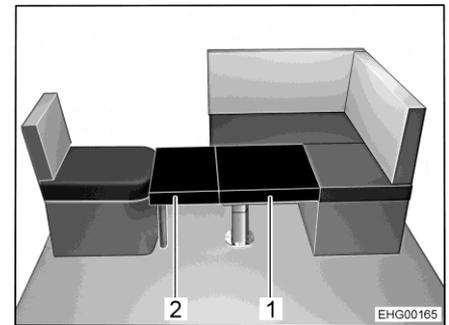

Fig. 112 After conversion
Together with the individual seat on the side and the shiftable lift-off table, the L-seating group can be converted into an additional bed. Two additional cushions are needed to create the lying surface. One of the additional cushions (Fig. 112,2) is equipped with a fold-out footrest and an angle bracket. The other additional cushion (Fig. 112,1) is placed on the table top.
- Fold footrest out on the smaller additional cushion (Fig. 112,2).
- Hook angle bracket of the additional cushion (Fig. 112,2) into individual seat and place additional cushion on the table top.
- Place the second additional cushion (Fig. 112,1) on the table top.